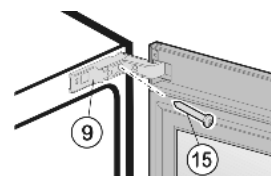

Fig. 9
- ▶ To unscrew the top turn hinge Fig. 9 (9): undo the screw Fig. 9 (15).